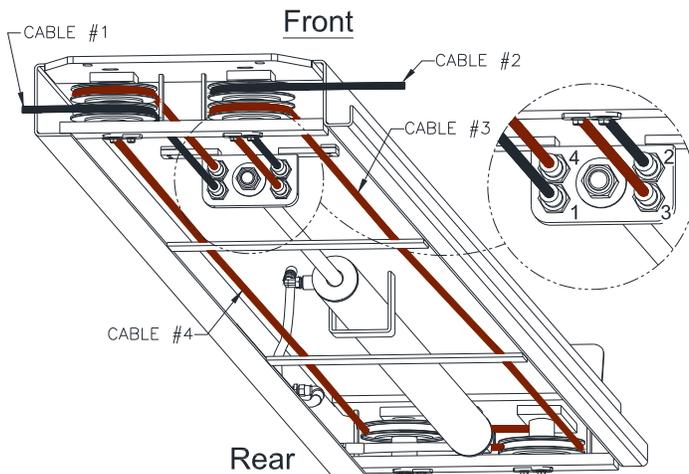
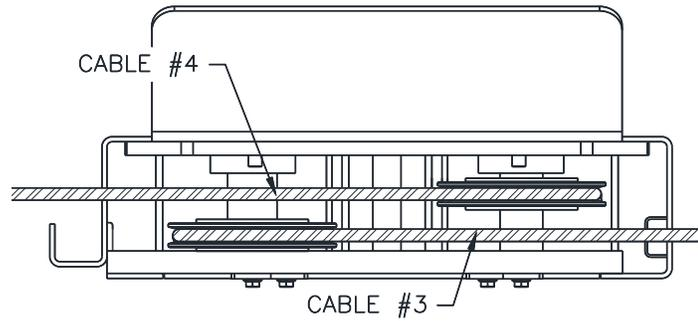

Fig 9 – Cable Layout
Fig 10 – Power Runway (Front View)
- 13) At the rear of the power runway, continue routing cables #3 & #4 to the front of the power runway sheaves, **Fig 9.**
- 14) At the front of the power runway continue routing cable #3 around the sheave and out the front drivers side cross beam. Cable #4 should be routed around the sheave & out to the passenger side front cross beam, **Fig 9 & Fig 10. MAKE SURE THE CABLES ARE NOT TANGLED WITH THE LOCK RELEASE ROD INSIDE THE CROSSBEAM.**